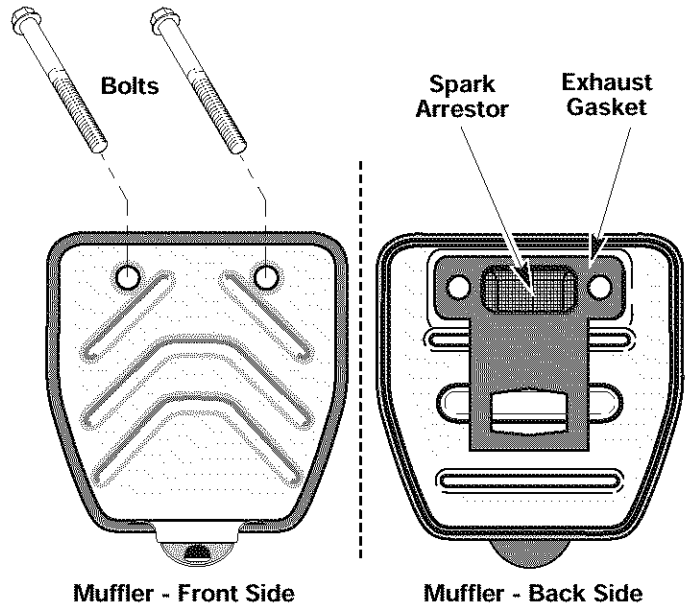

Fig. 39
2. Locate the muffler front and the two (2) bolts securing it to the engine (Fig. 39). Remove the two (2) bolts using a flatblade screwdriver or 5/16-inch socket or nut driver. Pull the muffler off of the engine.
3. Turn the muffler over to the back side and locate the exhaust gasket. Remove the muffler gasket from the muffler (Fig. 39).
7. Place the exhaust gasket against the muffler's back side. Align the exhaust gasket bolt holes with the bolt holes in the muffler. While holding the exhaust gasket in place, insert bolts into muffler's front side (Fig. 39).